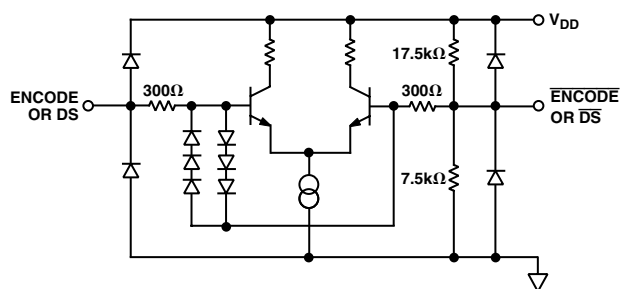

Figure 5. Equivalent ENCODE and Data Select Input Circuit
¹Gain error and gain temperature coefficient are based on the ADC only (with a fixed 2.5 V external reference).²3 dB bandwidth with full-power input signal.³t_V and t_{PD} are measured from the threshold crossing of the ENCODE input to valid TTL levels of the digital outputs. The output ac load during test is 5 pF (Refer to equivalent circuits Figures 5 and 6).⁴I_{IH} and I_{IL} are valid for differential input voltages of less than 1.5 V. At higher differential voltages, the input current will increase to a maximum of 1.5 mA.⁵Power dissipation is measured under the following conditions: analog input is -1 dBFS at 19.7 MHz.⁶Typical thermal impedance for the ST-44 (LQFP) 44-lead package (in still air): $\theta_{JC} = 20^{\circ}\text{C/W}$, $\theta_{CA} = 35^{\circ}\text{C/W}$, $\theta_{JA} = 55^{\circ}\text{C/W}$.⁷A change in input offset voltage with respect to a change in V_{DD}.⁸SNR/harmonics based on an analog input voltage of -1.0 dBFS referenced to a 1.024 V full-scale input range.
ENCODE and Data Select (DS) can be driven differentially or single-ended. For single-ended operation, the complement inputs ($\overline{\text{ENCODE}}$, $\overline{\text{DS}}$) are internally biased to $V_{DD}/3$ (~ 1.5 V) by a high impedance on-chip resistor divider (Figure 5), but they may be externally driven to establish an alternate threshold if desired. A $0.1\ \mu\text{F}$ decoupling capacitor to ground is sufficient to maintain a threshold appropriate for TTL or CMOS logic.
Note the 6-diode clock input protection circuitry in Figure 5. This limits the differential input voltage to $\sim \pm 2.1$ V. When the diodes turn on, current is limited by the $300\ \Omega$ series resistor. Exceeding 2.1 V across the differential inputs will have no impact on the performance of the converter, but be aware of the clock signal distortion that may be produced by the nonlinear impedance at the converter.